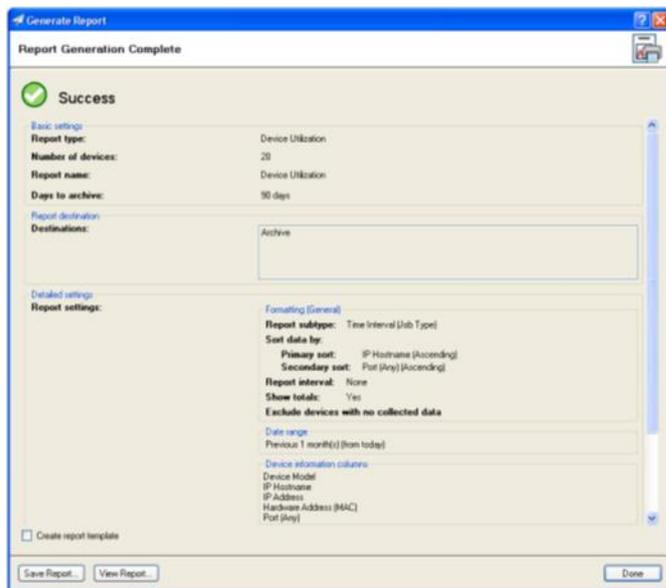

Figure 20: Report Generation Complete page
8. Confirm the settings. Click **Back** to change the settings, or click **Cancel** to abort this task. Click **Generate Report** to create the report. The **Report Generation Complete** page opens (Figure 20).